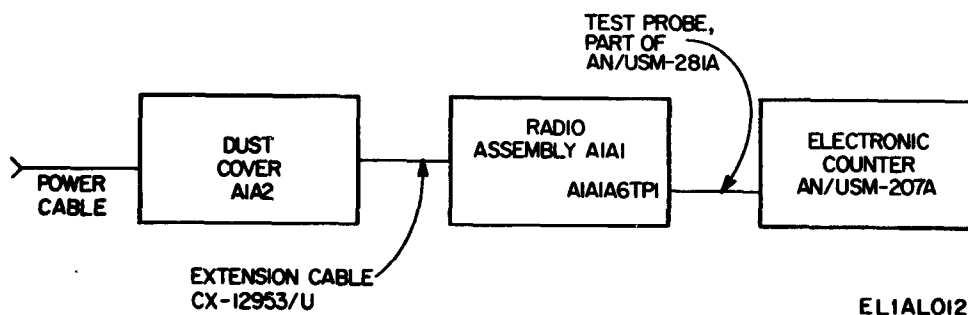

Figure 6-4. Frequency calibrator accuracy test connections.
(1) Perform the preliminary test setup of paragraph 6-12.
(2) Connect the test equipment as shown in figure 6-4.